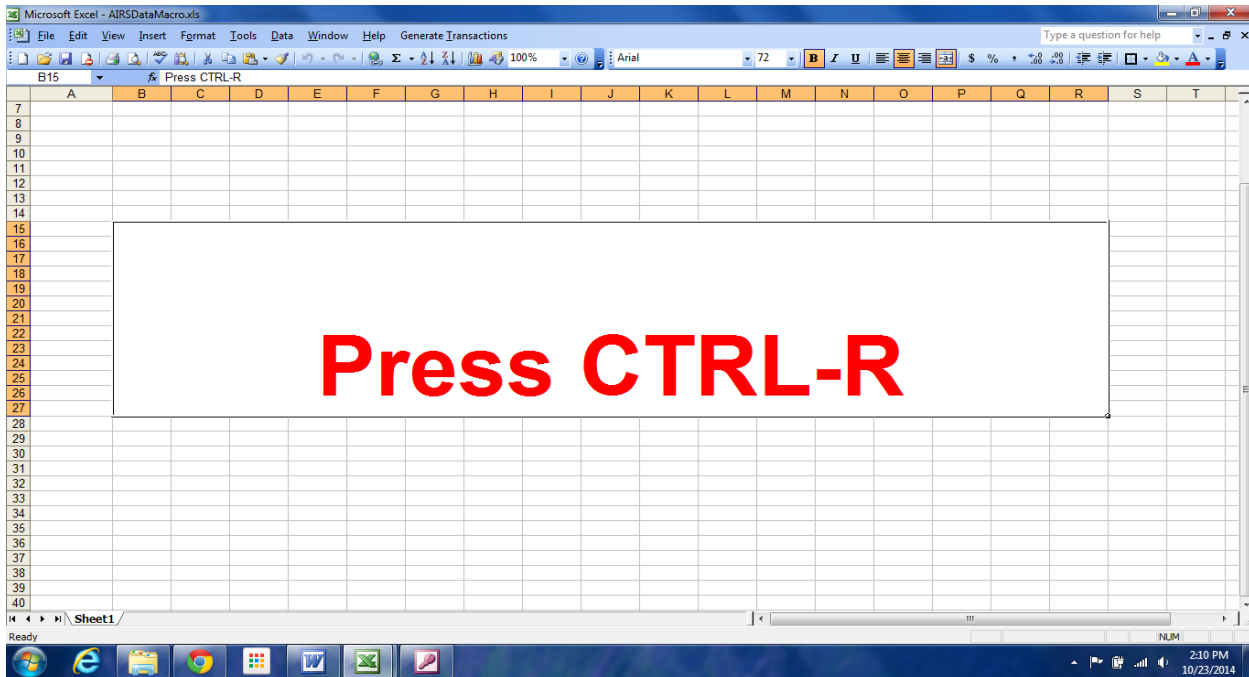

Figure 41: AQSDDataMacro
6.6.3.3 Go to S:\A&M\PM_{2.5}\AIRSData\ToBeProcessed and open AQSDataMacro.xls. Press “ctrl-r” so the editing macro can run. (see Figure 41).